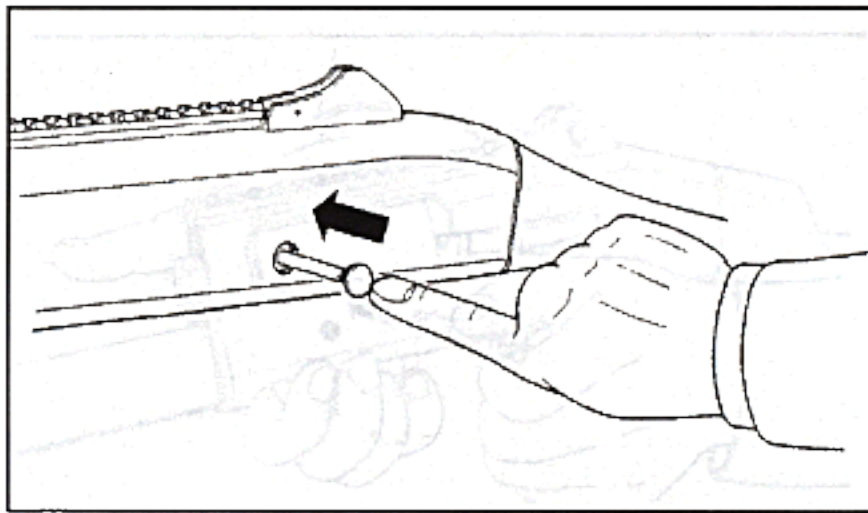

Figure 38. Push trigger group locking pin into secure trigger group
3. **Seat trigger group locking pin** – Press the trigger group locking pin fully to secure the trigger group in place (**Figure 38**).